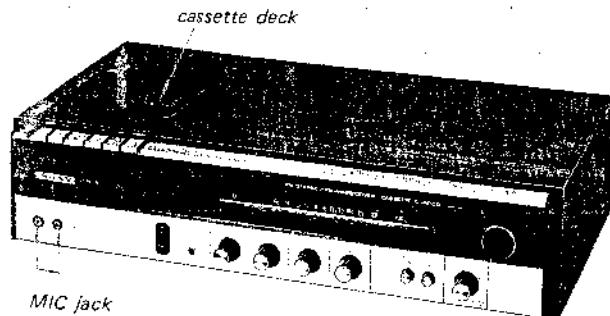

Fig. 2-4. Cassette deck removal
4. Remove the two MIC jack nuts by using a jack-nutdriver or tweezers as shown in Fig. 2-4.
6. Carefully lift up the cassette deck from the wooden case in the direction shown by the arrow as shown in Fig. 2-4. This frees the cassette deck.